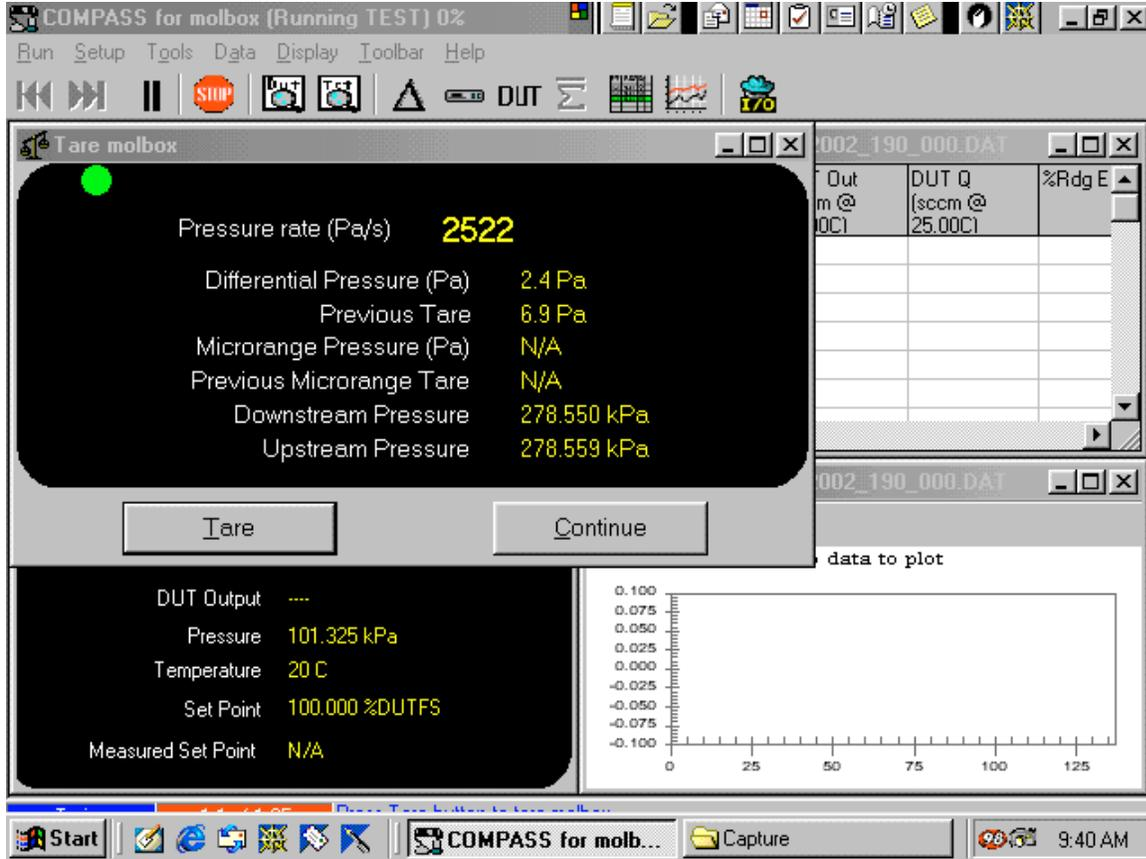
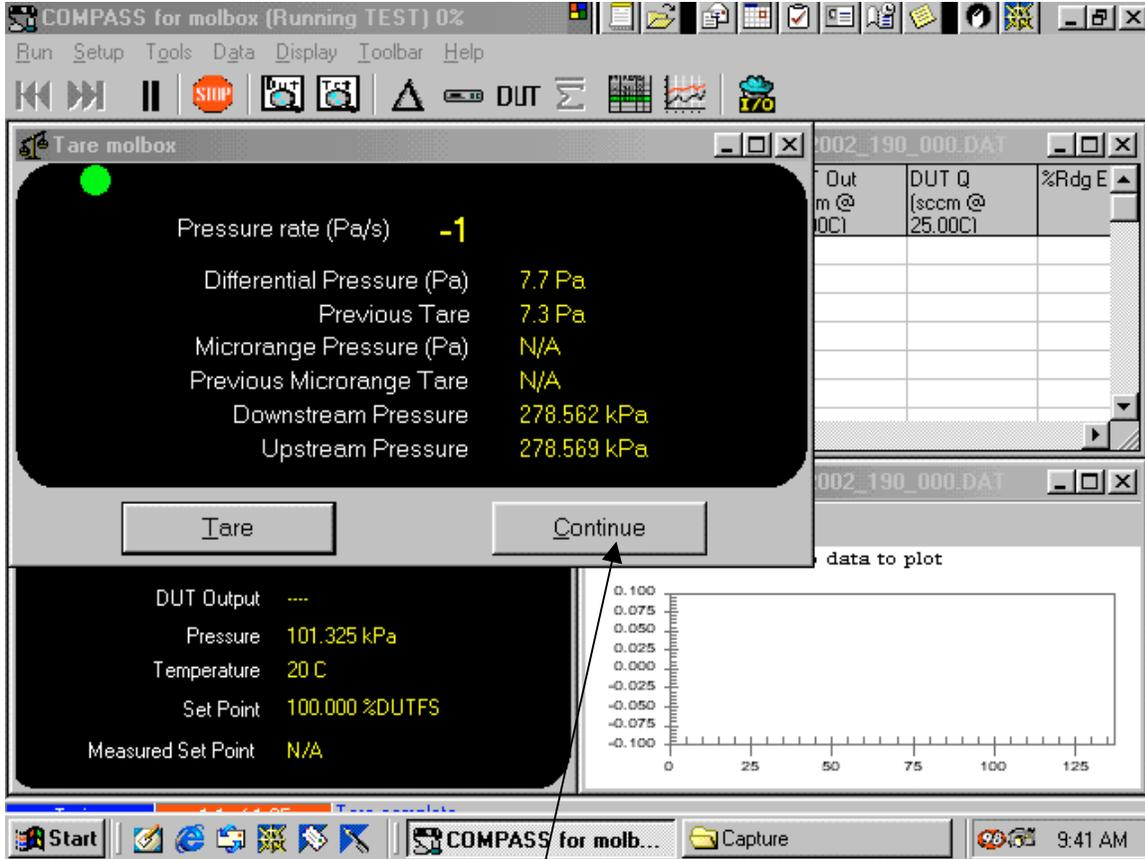

Figure 26 - Tare pressure transducer screen
Figure 27 - Tare complete click on continue
11.4.7 Click on "**OK**" to begin test (see figure 25). Before the test begins, the software will prompt you to run a "**Tare**" (Zeroing the pressure transducers to eliminate the zero error in the measurement of the differential pressure). Click on "**Tare**" to start (see figure 26). The message bar at the bottom of the screen will say, "**Tare completed**". Click on "**continue**" to start the test (see figure 27). The test consists of taking seven readings at each flow 100, 75, 50, 25 and 12.5 percent.